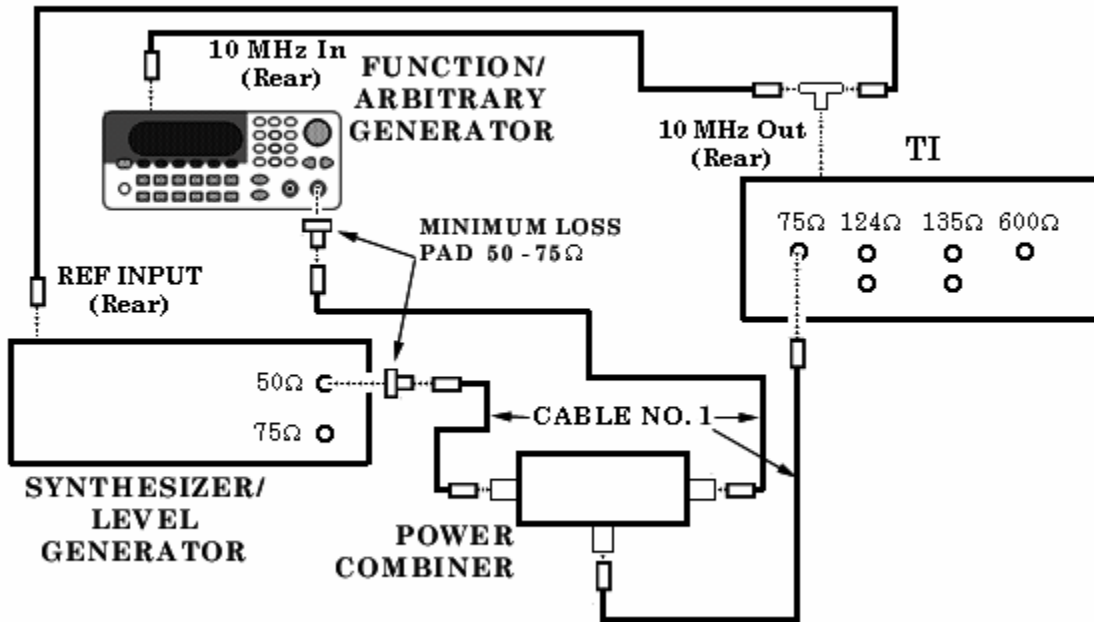

Figure 5. Wideband power accuracy setup.
(1) Connect equipment as shown in figure 5.
(2) Press **TI ENTRY [RECALL], [0], MEASUREMENT MODE [WIDE BAND], MEASUREMENT/ENTRY [AVE],** and **TERMINATION [75 Ω]** pushbuttons.
(3) Set function/arbitrary generator for 20 kHz and amplitude for +8.7 dBm.
(4) Set synthesizer/level generator for 30 kHz and amplitude for +8.7 dBm.
(5) Press **TI ENTRY [RDNG OFFSET]** and **MEASUREMENT/ENTRY [OFFSET]** pushbuttons.
(6) Set synthesizer/level generator to 10 MHz. TI will indicate between ±0.8 dBmO.
(7) Set function/arbitrary generator for 200 Hz and synthesizer/level generator for 1 kHz. Press **TI [RDNG OFFSET]** pushbutton.
(8) Set synthesizer/level generator to 32 MHz. TI will indicate between ±1.8 dBmO.
- (1) Connect equipment as shown in figure 5.
- (2) Set TI ENTRY [RECALL], [0].
- (3) Set function/arbitrary generator frequency for 11004 Hz and amplitude for -56 dBm.
- (4) Set synthesizer/level generator frequency for 11104 Hz and set amplitude level to -76 dBm.
- (5) Press TI MEASUREMENT ENTRY RANGE [100 dB], and ENTRY, [FREQ], [1], [0], and [kHz +dB] pushbuttons.
- (6) Press TI MEASUREMENT MODE (blue) and [0 JITTER] pushbuttons. TI phase jitter will be from 10 to 13 degrees p-p.
- (7) Disconnect function/arbitrary generator and combiner power from setup.
- (8) Connect synthesizer/level generator 75 Ω OUTPUT to TERMINATION 75 Ω input of TI.
- (9) Press TI ENTRY [RECALL], [0], and TERMINATION [75 Ω] pushbuttons.